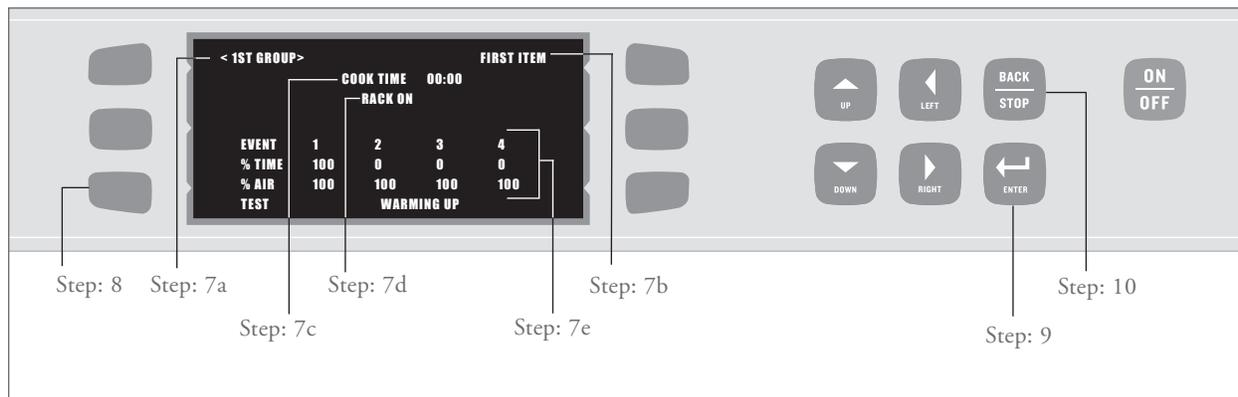

FIGURE 18: Modifying Recipes – Steps 7-10
7. From “Food Item” Screen (Figure 18, page 14), the operator can:
9. To save settings, press “ENTER” Key until SETTINGS SAVED is displayed (can be up to three (3) times before SETTINGS SAVED displays).